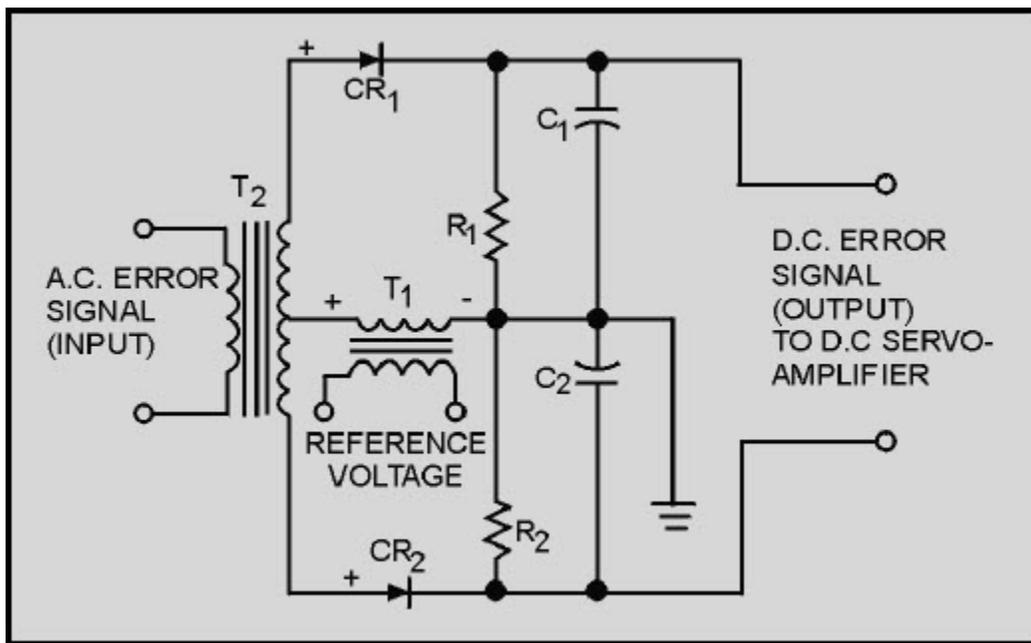

Figure 2-18 Diode demodulator
One example of a servo demodulator is the DIODE DEMODULATOR, sometimes called a phase detector, shown in figure 2-18. This circuit is used in servo systems because it not only converts ac to dc, but it is also able to distinguish the phase of the ac signal by comparing it to a reference voltage. Do not confuse this circuit with other phase detector circuits, such as those used in radar or communications systems. This demodulator (phase detector) distinguishes signals that are either in phase or 180° out of phase. For this reason this circuit is useful in servo systems where the ac output from the error detector (CT) is either in phase with the reference signal or 180° out of phase. Whatever type of error detector is used in the servo system, the reference voltage to the error detector and to the demodulator must be IN PHASE with each other for the demodulator to do its job.
As shown in figure 2-18, the anodes of the two diodes are supplied with the same reference voltage.